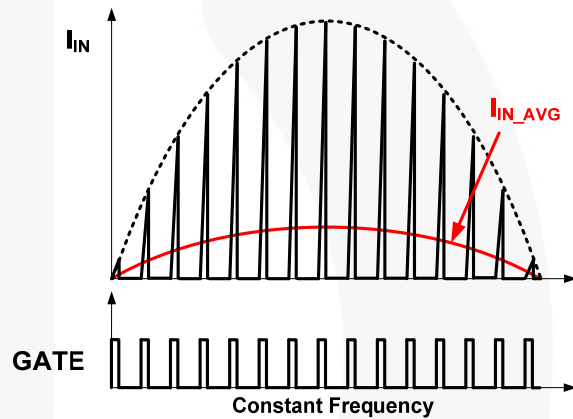

Figure 18. Input Current and Switching
In a conventional boost converter, Boundary Conduction Mode (BCM) is generally used to keep input current in phase with input voltage for Power Factor (PF) and Total Harmonic Distortion (THD). However, in flyback / buck boost topology, constant turn-on time and constant frequency in Discontinuous Conduction Mode (DCM) can implement high PF and low THD, as shown in Figure 18. Constant turn-on time is maintained by an internal error amplifier and a large external capacitor (typically  $>1 \mu$ F) at the COMI pin. Constant frequency and DCM operation are managed by linear frequency control.